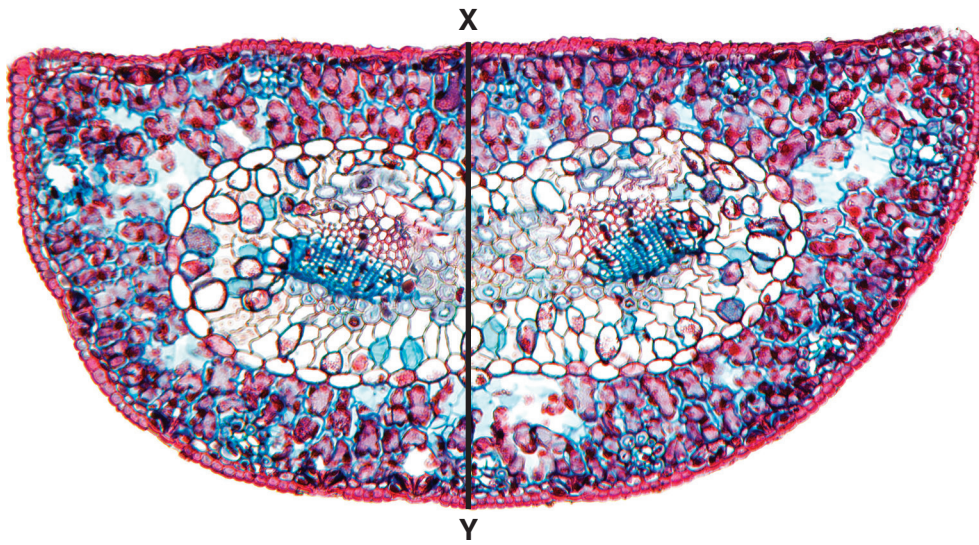

Fig. 2.1
(b) Fig. 2.1 is a photomicrograph of a stained transverse section through a leaf of a different type of plant.
- (iii) Prepare an appropriate table so that it is suitable for you to record the observable differences between the leaf on **K1** and the leaf in Fig. 2.1.